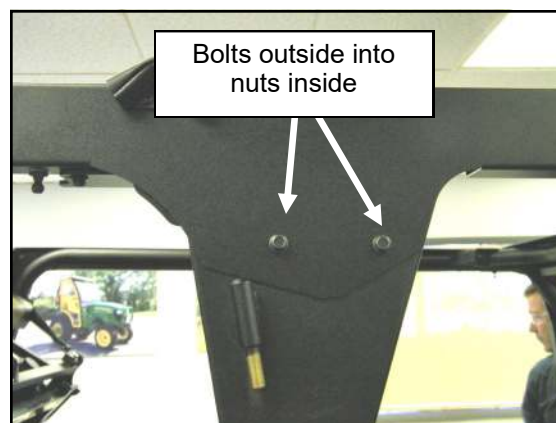

Fig. 7.2 Header to B-pillar
- 7.2** Per figure 7.2, attach the header to the B-pillar with (2) 1/4-20 bolts and nuts per side, with nuts on the inside of the panel. Leave loose.